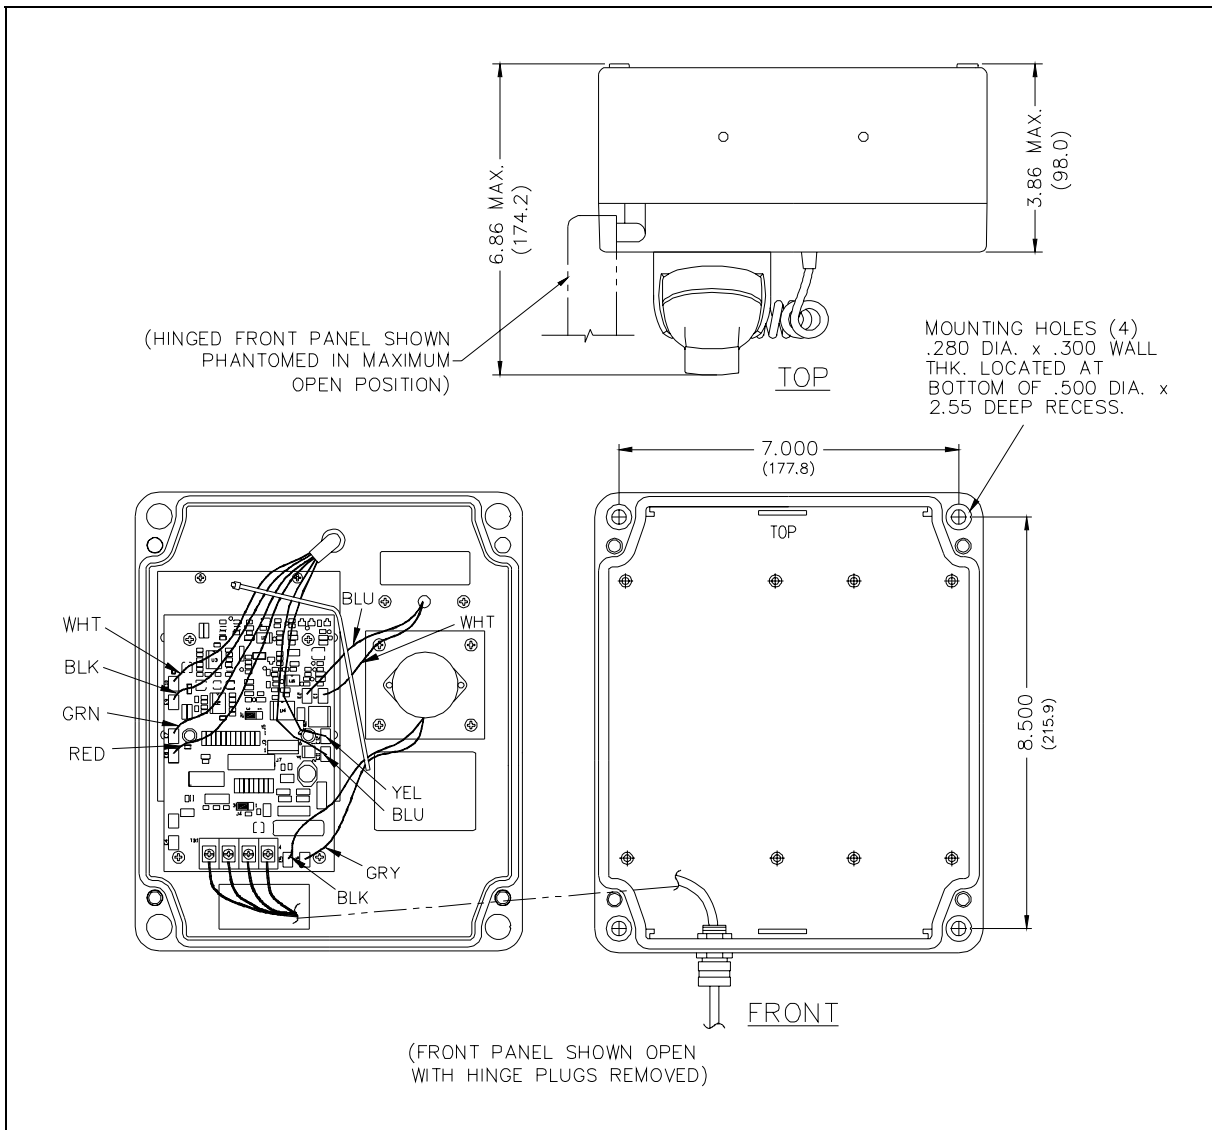

Figure 4. Model 247-001 Installation Drawing
2. Mount the enclosure on the wall using four 1/4-20 machine screws with nuts and washers or #14 wood screws of appropriate length, depending on the mounting surface. Refer to Figure 4 for details.